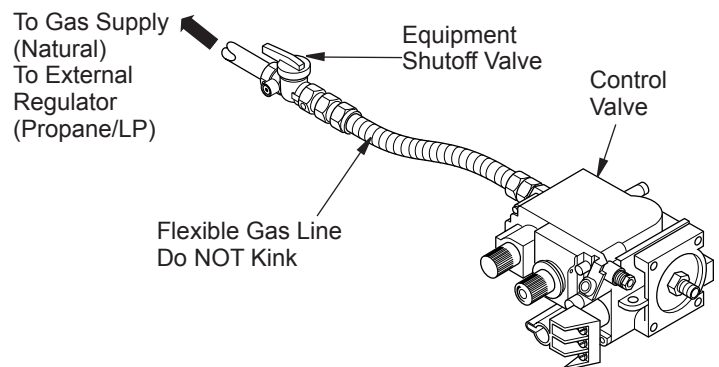

Figure 32 - Attaching Flexible Gas Line to Control Valve
3. Attach flexible gas line from gas supply to control valve (see Figure 32).